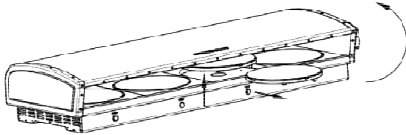

Figure 2
Insert and remove the 4 sets*quick assembly rotating pizza stone set as indicated by the arrow in Figure 2.
During maintenance, turn the oven 180 degrees as shown in Figure 2, find the motor to be replaced, unscrew the screws to open the motor maintenance port, as shown in position A.
2. Close-up figure 2 shows figure A as a DC female plug, and figure B as a DC male plug for connecting to the 12V/8A DC adapter.